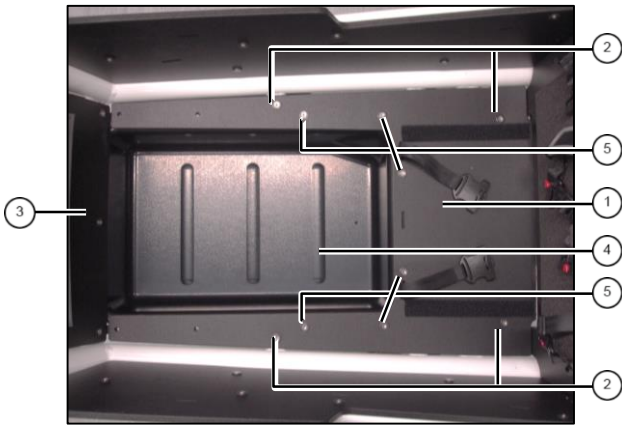

fig.1: new bottom plate with legroom
2. Install bottom plate to Load frame at points ② with 4 screws, washers and nuts out of step 1 (fig. 1).
3. Install new front plate ③ at both upper holes with 2 screws, washers and nuts out of step 1 (fig. 1).